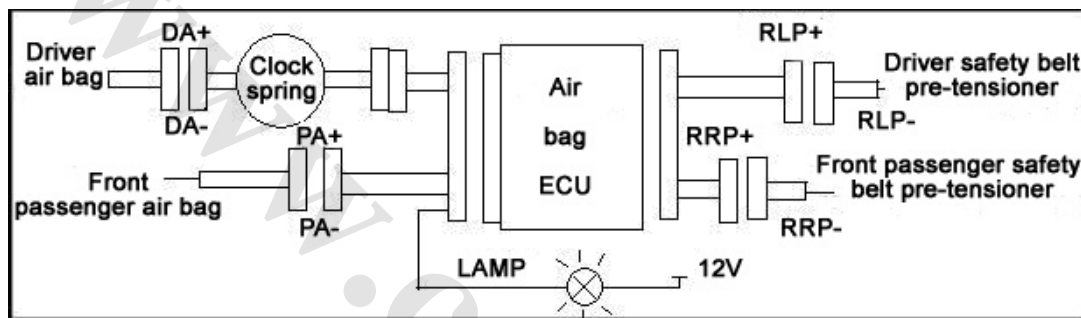

Fig. 5-11
- (1) Preparation before checking.
- (2) Connect the negative ground wire on the battery and wait for at least 3min.
- (3) Turn the ignition switch to position ACC or ON.
- (4) Measure the voltage between the LA pin of the air bag ECU and the vehicle body.
- (5) Normal voltage: 0~4V. If the voltage is abnormal, check the SRS warning lamp or repair the SRS warning lamp circuit. If normal, go to the following process.
- (6) Remove the negative ground wire from the battery and wait for at least 3min.
- (7) Connect the air bag ECU interface. See Fig. 5-11.